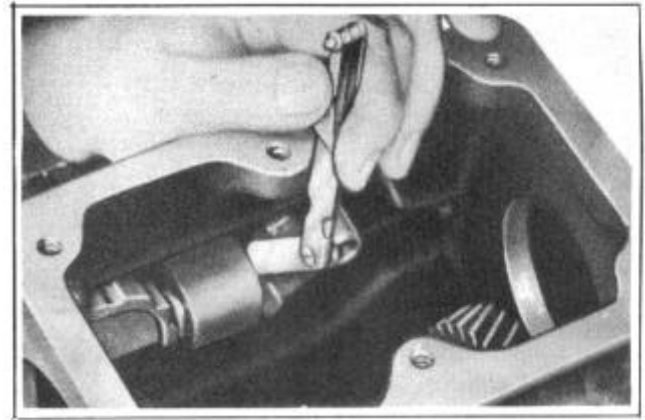

FIGURE 28
7. Install shift shaft levers, short (low and reverse) on rear shaft and long (second and high) on front shaft. Move either lever into any in-gear position and with one end of the interlock sleeve contacting a shift shaft cam, measure the clearance with a feeler gauge between the opposite end of the sleeve and the cam of the other shift shaft, Figure 28. This clearance should be from .001" to .007". If not within these limits, remove sleeve and replace with one of proper length. Interlock sleeves are available in five different lengths as shown in specifications. Install taper pin retaining second and high shift shaft in case.